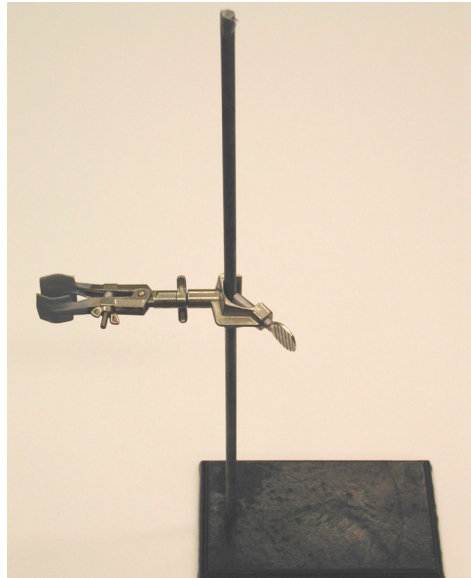

Figure 12: Stand to hold photomultiplier and scintillator.
3. **Meanwhile, place the photomultiplier tube onto the stand such that the glass end is facing up.** If you do not have a stand (as shown in Figure 12), then use some improvised method to hold the photomultiplier with its glass side up (and keep it held for 24-48 hours undisturbed).